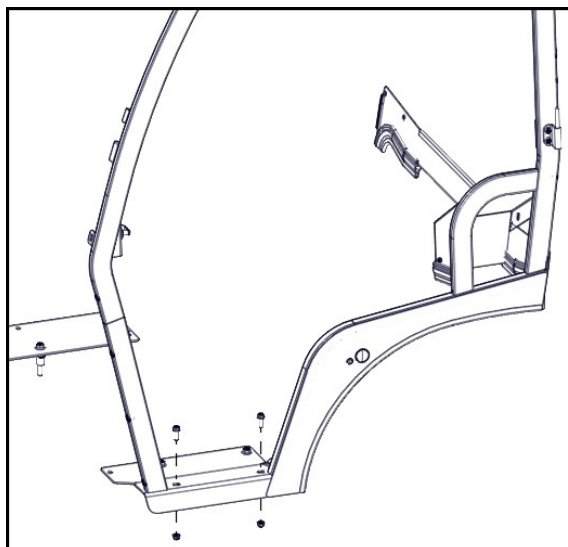

Fig. 5.3 (Left Sideframe Installation)
**5.3** With assistance, place left side frame in place. Fasten the floorboard to the left side front mount with bolts and nuts — no plastic washers. See Fig. 5.3. Ensure sideframe seals against the tractor fender.